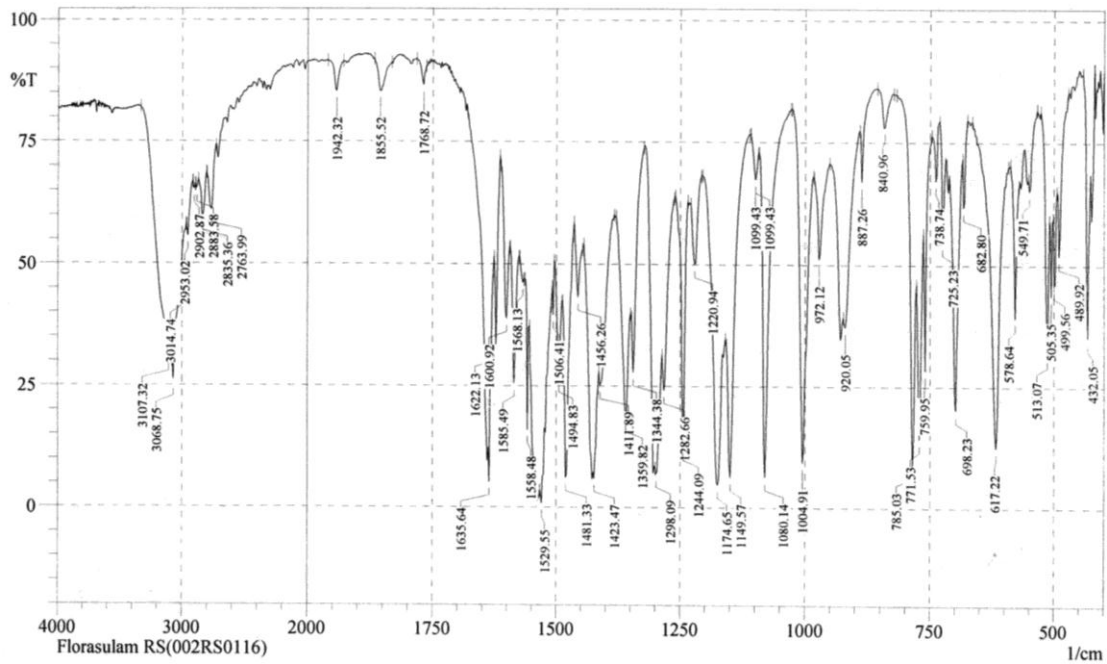

Fig. 2 Infrared Spectrum of florasulam
2.3 Infrared. Prepare by direct application pure Florasulam and the sample on an ATR unit. Scan from 4000 to 400 cm⁻¹. The spectrum produced by the sample should not differ significantly from that of the standard. (Fig. 2)